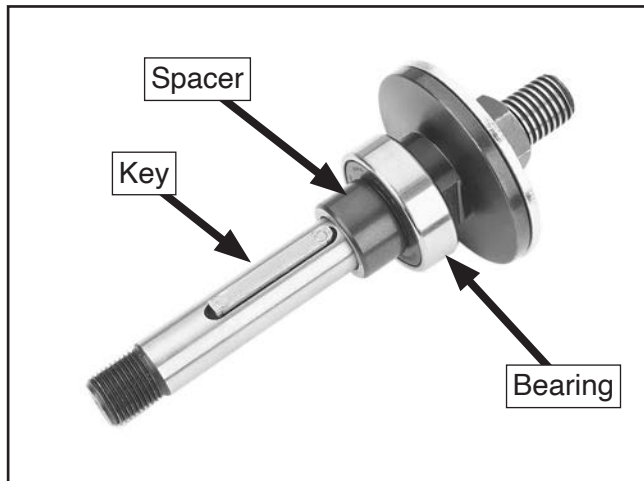

Figure 139. Components re-installed on arbor.
21. Re-install larger front spacer and key onto arbor. Arbor should look like arbor shown in **Figure 139**.